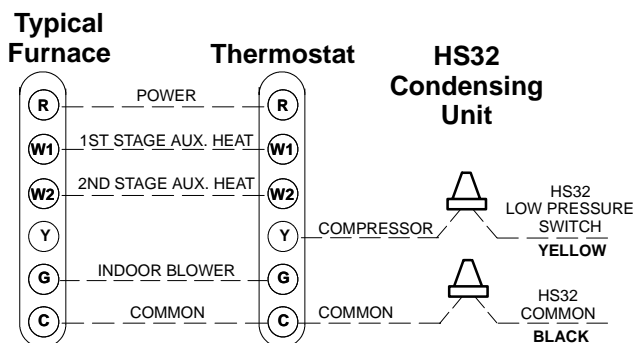

FIGURE 3
- 3 - Install low voltage wiring from outdoor to indoor unit and from thermostat to indoor unit. See figures 3 and 4 .